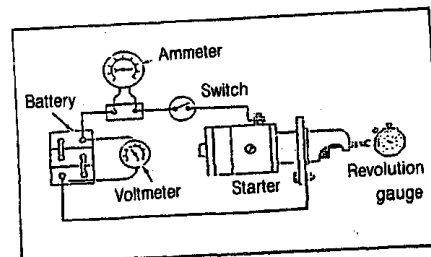

Fig. 5-32
- 1) Connect the battery, ammeter and voltmeter to the starter as shown in Fig. 5-32.